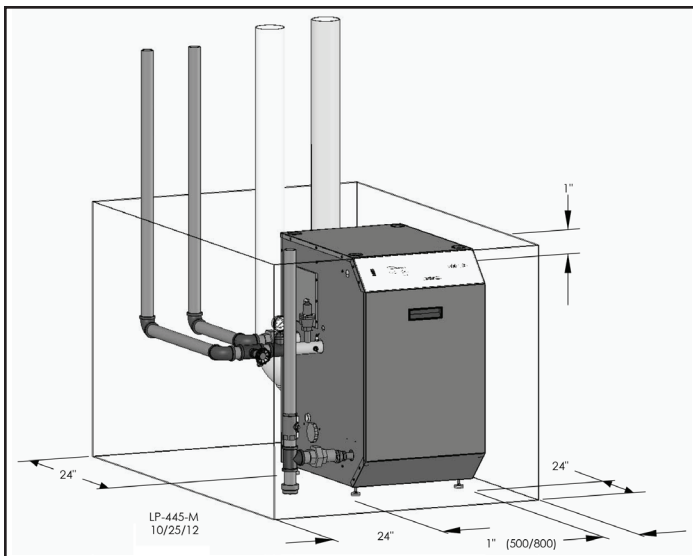

Figure 3 - Recommended Service Clearances
**NOTE:** If you do not provide the minimum clearances shown in Figure 3 it might not be possible to service the boiler without removing it from the space.